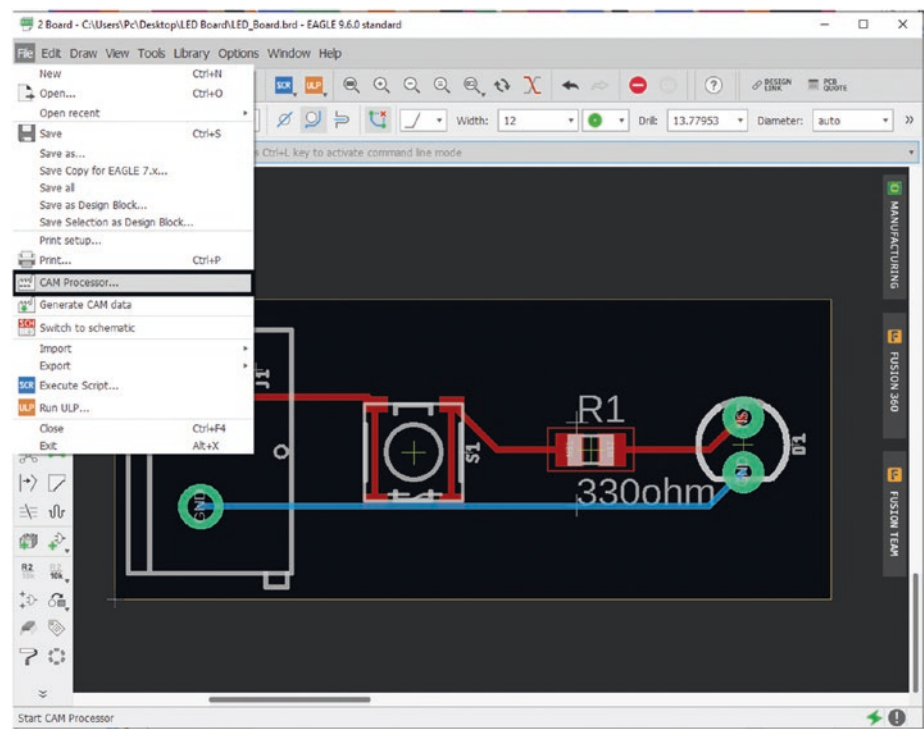

Figure 5-80. Select CAM Processor...
2. Go to File ► CAM Processor. Make sure your current project is saved. See Figure 5-80.